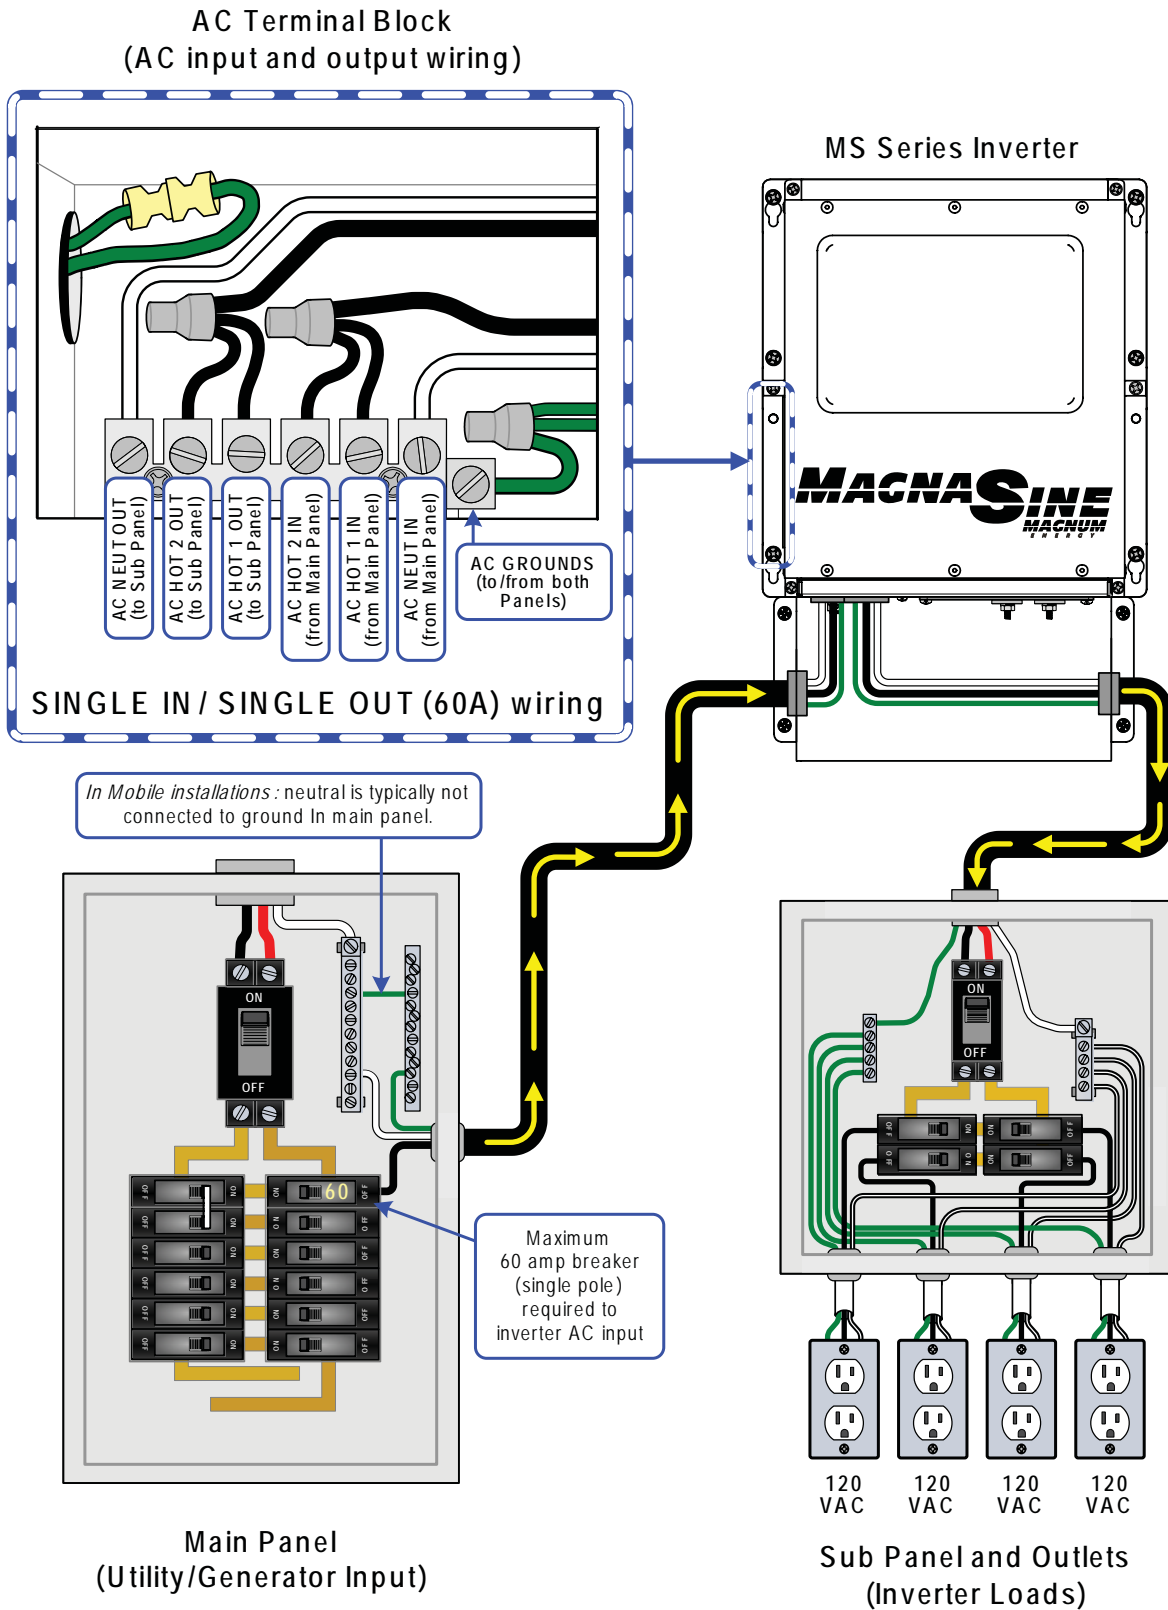

Figure 2-12, AC Wiring for Single In - Single Out (60 A) Configurations
When in the Standby mode, the full AC continuous pass-thru capacity of the MS Series inverter/charger is 30 amps for each AC leg2 (AC HOT 1 and AC HOT 2), However the AC HOT 1 and AC HOT 2 may be combined to obtain a 60 amps pass thru capability (see figure 2-12 for the SISO-60A configuration). For a 30 amp continuous pass-thru capability, each AC HOT input to the inverter requires a 30 amp continuous duty rated breaker3, which corresponds to a minimum cable size of #10 AWG4 in conduit. When tying the AC HOT 1 and HOT 2 together for a 60 amp continuous pass-thru capability, the AC input to the inverter requires a 60 amp continuous duty rated breaker3, which corresponds to a minimum cable size of #6 AWG4 in conduit. If you are using other circuit breakers/wire sizes, refer to the appropriate electrical codes for proper sizing requirements.
**Info:** One of the AC wiring configurations [SI/SO (60A), figure 2-12] uses a #6 AWG wire to carry 60 amps and splits to two wires to allow 30 amps for each leg (i.e. AC HOT 1 and AC HOT 2). IDEAL Industries Inc. ([www.idealindustries.com](http://www.idealindustries.com)) manufactures a crimp connector (PN: 412) and a separate insulator (PN: 417) that will allow up to two #8 AWG wires with one #6 AWG wire to be connected together.